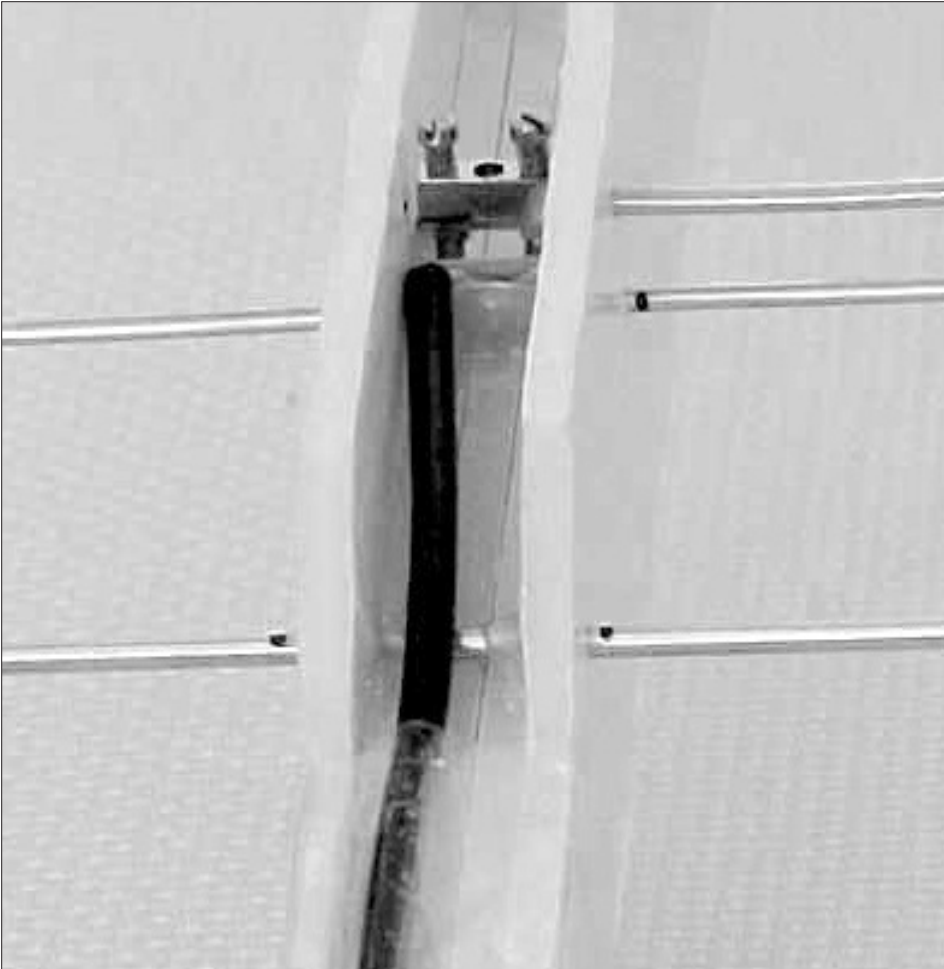

Figure 4: Driven element detail.
- 35) Use the flat 1/8" blade screwdriver to back-off the screws in both connectors, if necessary, until no screws are entering the wire chamber. Then, slide one connector over the coaxial cable shield conductor. Locate the pair of holes in the side panel for the driven element's long segment. Place the connector installed on the shield wire between these holes with its screws facing forward and tilted up. The coax shield should come out of the side of the connector opposite the first hole which the driven element will pass through. Then, push the long element segment through the hole in the side panel and into the connector. As you're doing this, use the 4" long nose pliers, as needed, to position and hold things in place. See Figure 4.
- 36) Slide the other connector over the coax center conductor. Locate the pair of holes in the side panel to be used by the driven element's short segment. Place the connector installed on the center conductor between these holes with its screws facing up. The center conductor should be on the same side as the shield. Push the short segment through the side panel into the connector, while moving more of the long segment. Keep pushing the short segment through the connector until a little bit of it passes into the other side panel but doesn't extend beyond it. Having the short segment, as well as the long, held by both side panels considerably strengthens the attachment of the driven element to the boom. See Figure 4.
- 42) Apply a dab of hot melt glue to the middle of each element to hold it in place. When done, use some clear packing tape to secure the coaxial cable to the top of the handle part of the boom. See Figure 4.